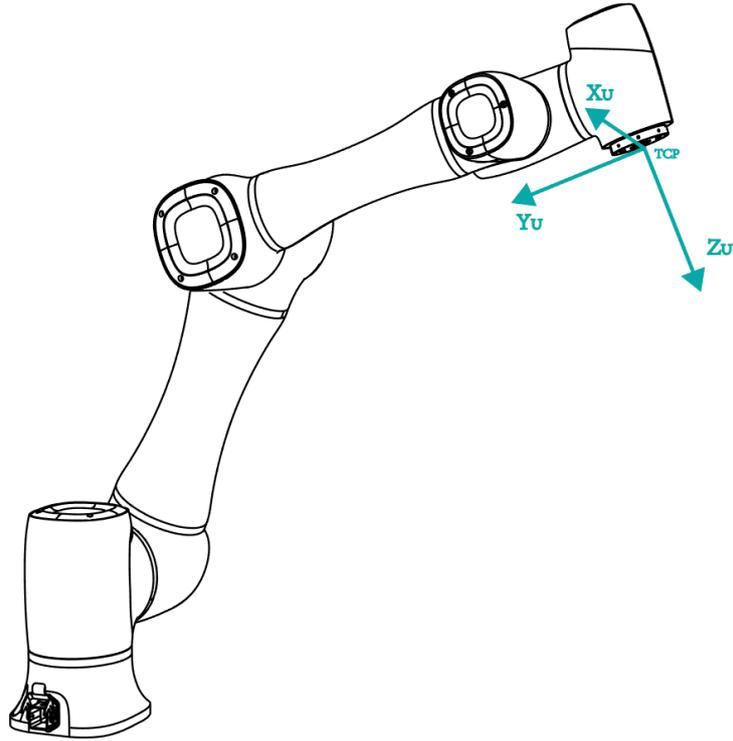

Figure 5.7 Point
- Point: move TCP to any point **A** to create origin, and create user coordinate system according to the default tool coordinate system As shown in Figure 5.7.